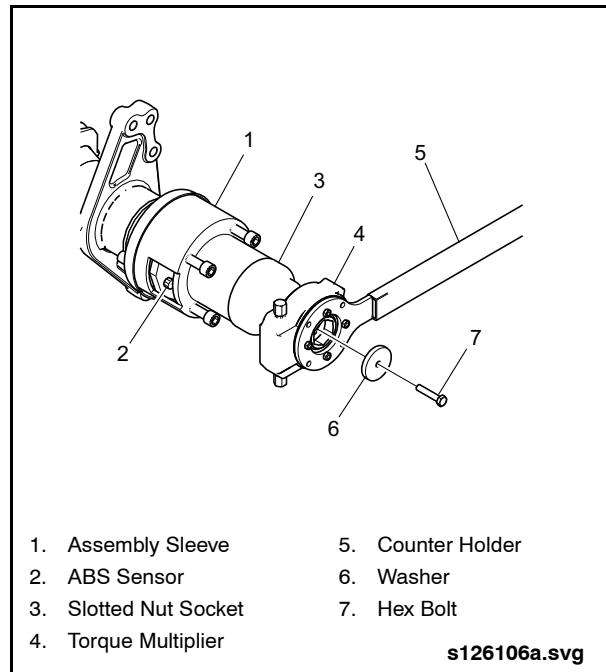

Fig. 2-149: Installing ABS Sensor Holder
3. Position Counter-Holder (Item 12 from special tools list) so that the head of the tool slips over the studs on the torque multiplier body and the base of the counter-holder is braced against the floor to counteract the rotational movement of the torque multiplier. See "Fig. 2-149: Installing ABS Sensor Holder" on page 128.